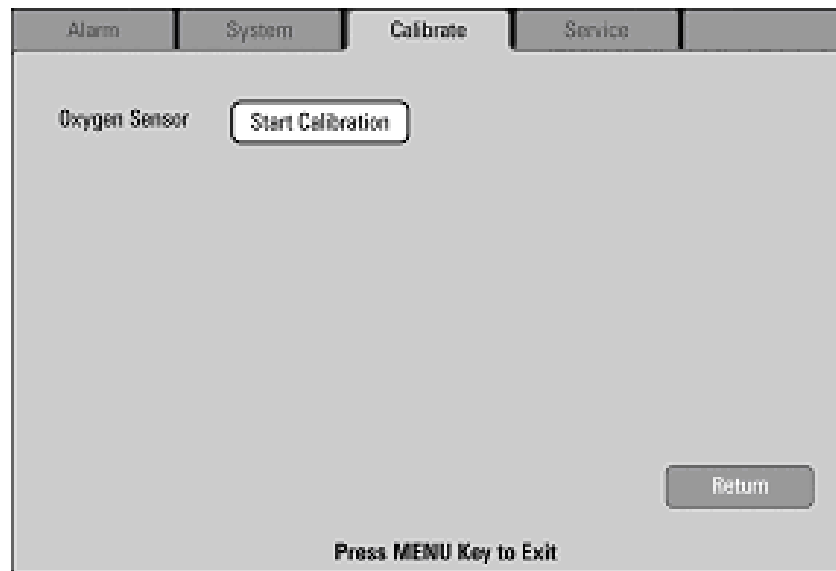

FIGURE 2-13 Calibrate Menu Tab
- b. Press the **MENU** key and then use the **Navigator™ Knob** to scroll to the **Calibrate** menu tab (see FIGURE 2-13). Select the **Start Calibration** button.